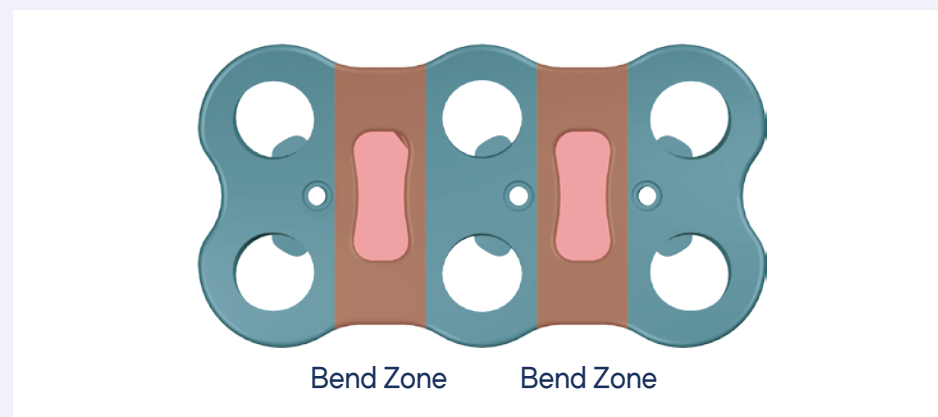

Figure 4
- The Pinehurst Anterior Cervical Plate is provided with CAP LOC mechanism should be bent across the bend zones (Figure 4).